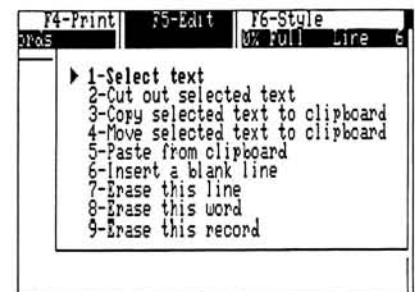

Figure 8
9. Press F5 to see the Edit pull-down menu (Figure 8), then 1 for the Select text option.